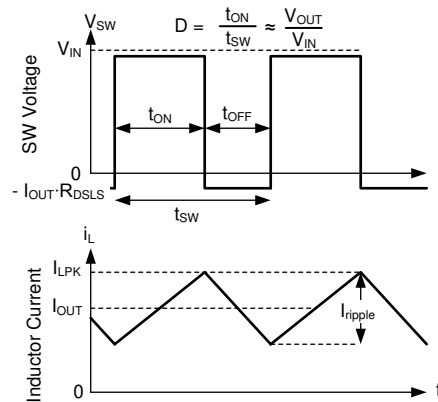

图 9-16. SW Voltage and Inductor Current Waveforms in Continuous Conduction Mode (CCM)
The following operating description of the LM61460-Q1 refers to 节 9.2 and to the waveforms in 图 9-16. In CCM, the LM61460-Q1 supplies a regulated output voltage by turning on the internal high-side (HS) and low-side (LS) NMOS switches with varying duty cycle (D). During the HS switch on-time, the SW pin voltage, V_{SW} , swings up to approximately V_{IN} , and the inductor current, i_L , increases with a linear slope. The HS switch is turned off by the control logic. During the HS switch off-time, t_{OFF} , the LS switch is turned on. Inductor current discharges through the LS switch, which forces the V_{SW} to swing below ground by the voltage drop across the LS switch. The converter loop adjusts the duty cycle to maintain a constant output voltage. D is defined by the on-time of the HS switch over the switching period: